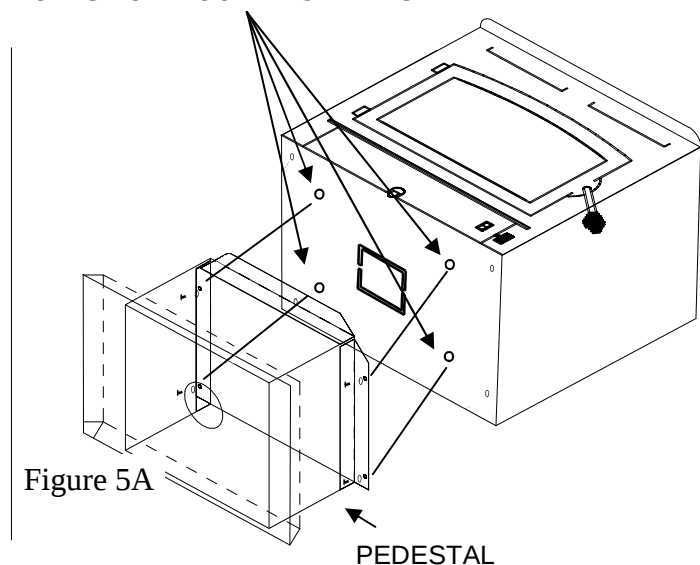

Figure 5A
6. **(Pedestal Kit):** If pedestal kit is being used and **(out side air is required for residential free standing installation (see page 29 Out Side Air Installation))**. Open freestanding kit and obtain stand. Place stand against bottom of heater (angle side to heater).Center stand front to rear and also center stand left and right. Mark screw locations on bottom of stove through outer holes of stand mounting angles. Set stand aside and drill four 7/32" holes in heater bottom. Then mount stand to bottom of heater with screws provided. (See Figure 5A).
7. Obtain four (4) 3/16" self-tapping screws and secure stand to heater.